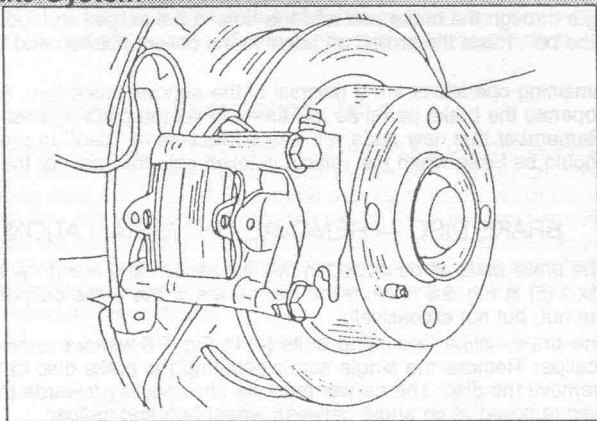

Fig. 9.7. — The two brake pads in fitted position, just before removal.
- Insert the new outer brake pad and partially insert the securing bolt (5) in Fig. 9.7. Then fit the second brake pad together with the tensioning spring. Make sure the spring is in its original position. Fully insert the pad securing bolt,